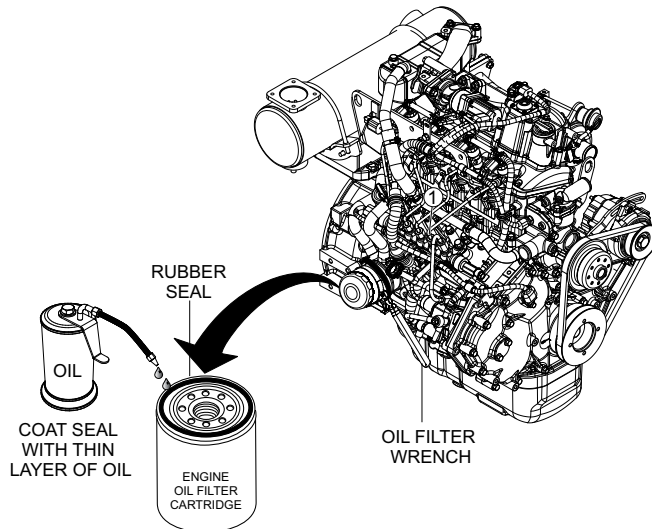

Figure 78. Engine Oil Filter Removal
2. Using an oil filter wrench (Figure 78), remove engine oil filter.
3. Coat the rubber seal (gasket) surface of oil filter (Figure 78) with clean 15W-40 engine oil.